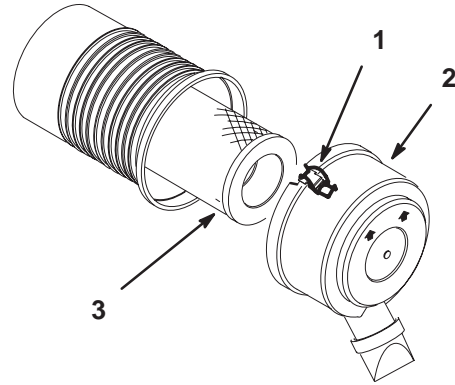

Figure 38
4. Clean around the air cleaner to prevent dirt from getting into the engine and causing damage. Loosen the retaining clips and remove the air cleaner cover (Fig. 38).
5. Carefully remove the filter from the compartment (Fig. 38).
1. Carefully slide the element into the compartment (Fig. 38).
2. Place the air cleaner cover into the compartment and latch the retaining clips (Fig. 38).